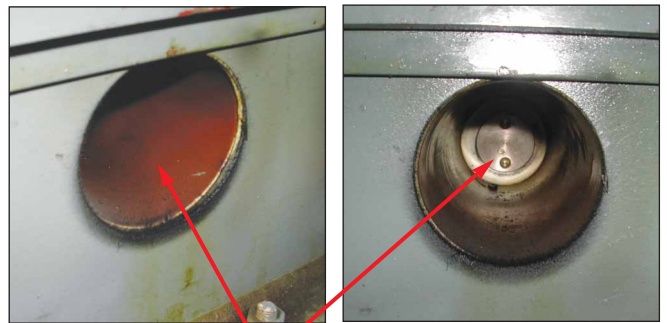

Figure 1: Heavy Partial Discharge on all three bushings.
- Heavy Partial Discharge identified in the bushing spouts. (Refer Figure 1)